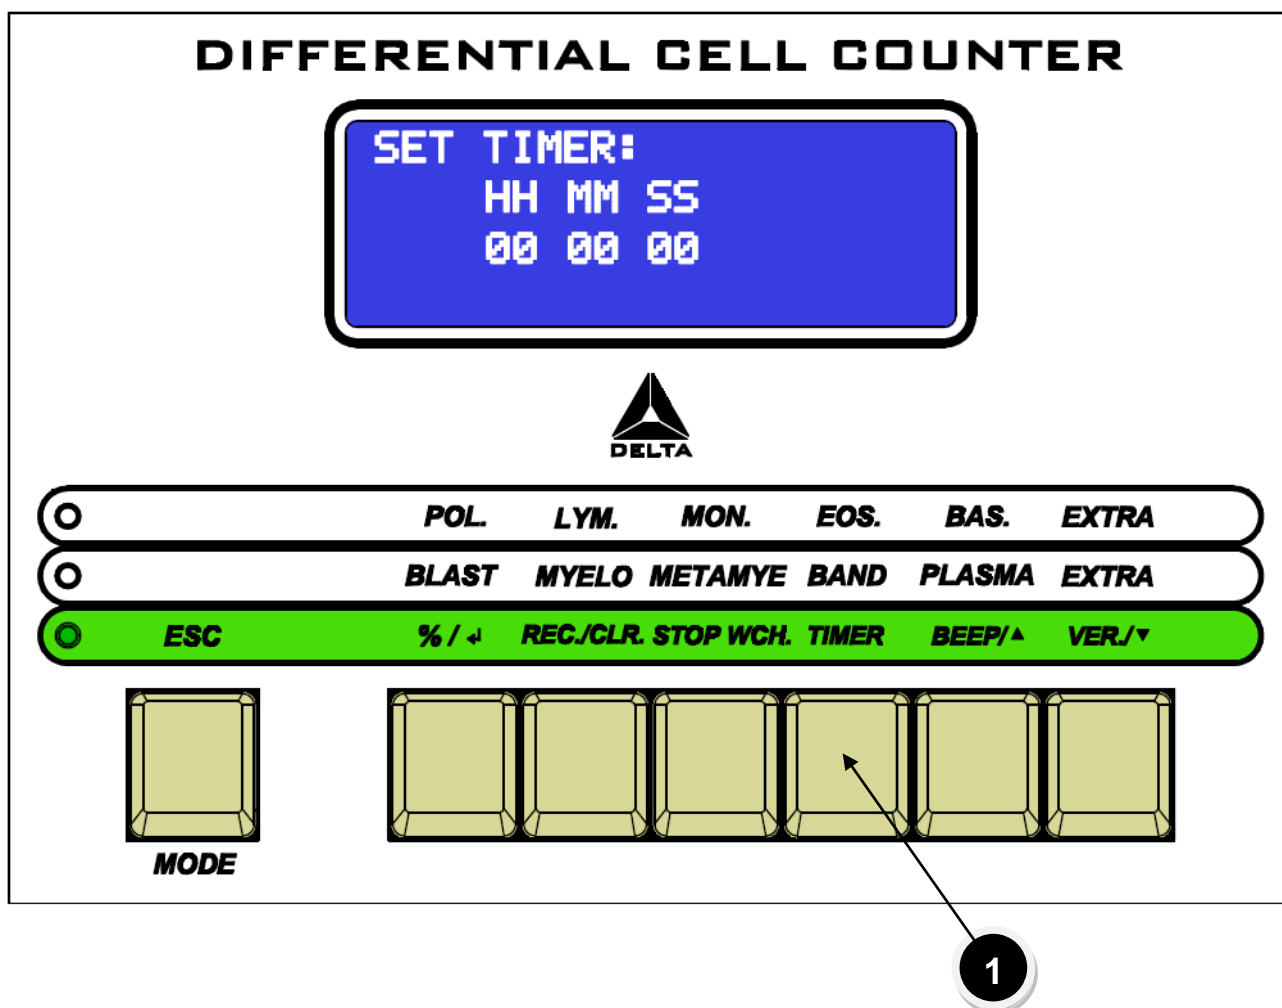

Fig. 7 Timer
- 4.14 Set desired “**Countdown Timer**” by pressing “**Timer**” key (Fig.7/①).